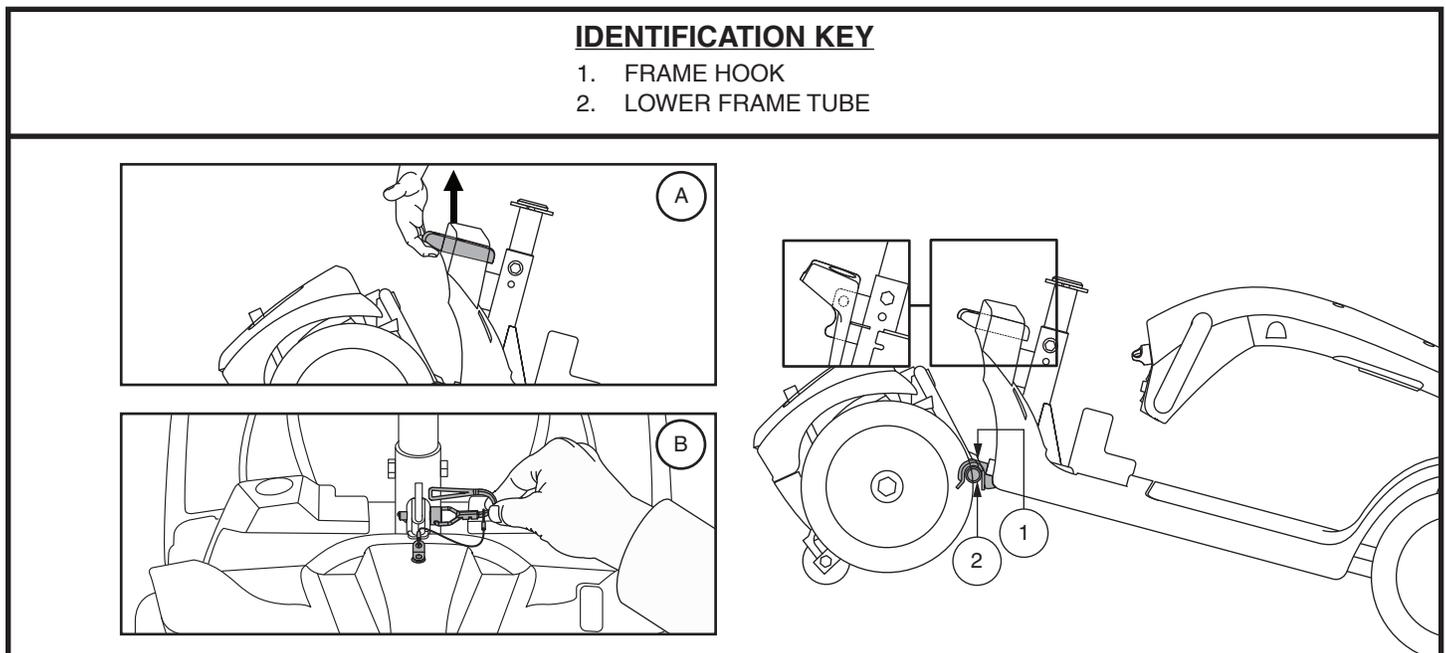

Figure 29. Frame Release Lever (Style A) and Frame Release Lockup Pin (Style B)
3. Remove the frame lockup pin (*Model 104 only*) See **figure 29**.
1. Position the front and rear sections of your scooter as shown in **figure 29**.
2. Use the frame release lever (or the seat post for model 104) to lift the front section as you align the frame hooks of the front section with the lower frame tube of the rear section. See **figure 29**.